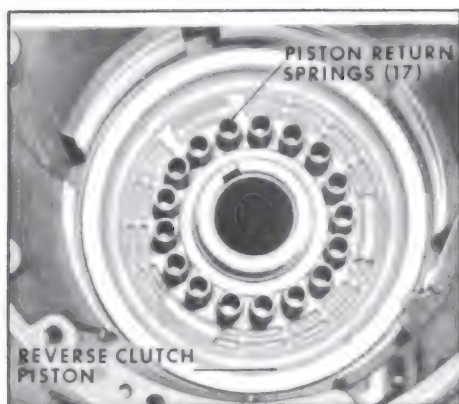

Figure 5-297
4. Install seventeen (17) clutch piston return springs. See Figure 5-297.